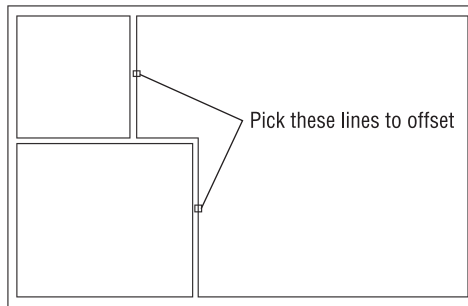

FIGURE 4.20: The lines to offset for 3'-0" openings
2. Click one of the two lines indicated in Figure 4.20, and then click in a blank area to the right of the line that you selected. Now do the same thing to the second wall line. You have to offset one line at a time because of the way the Offset command works.